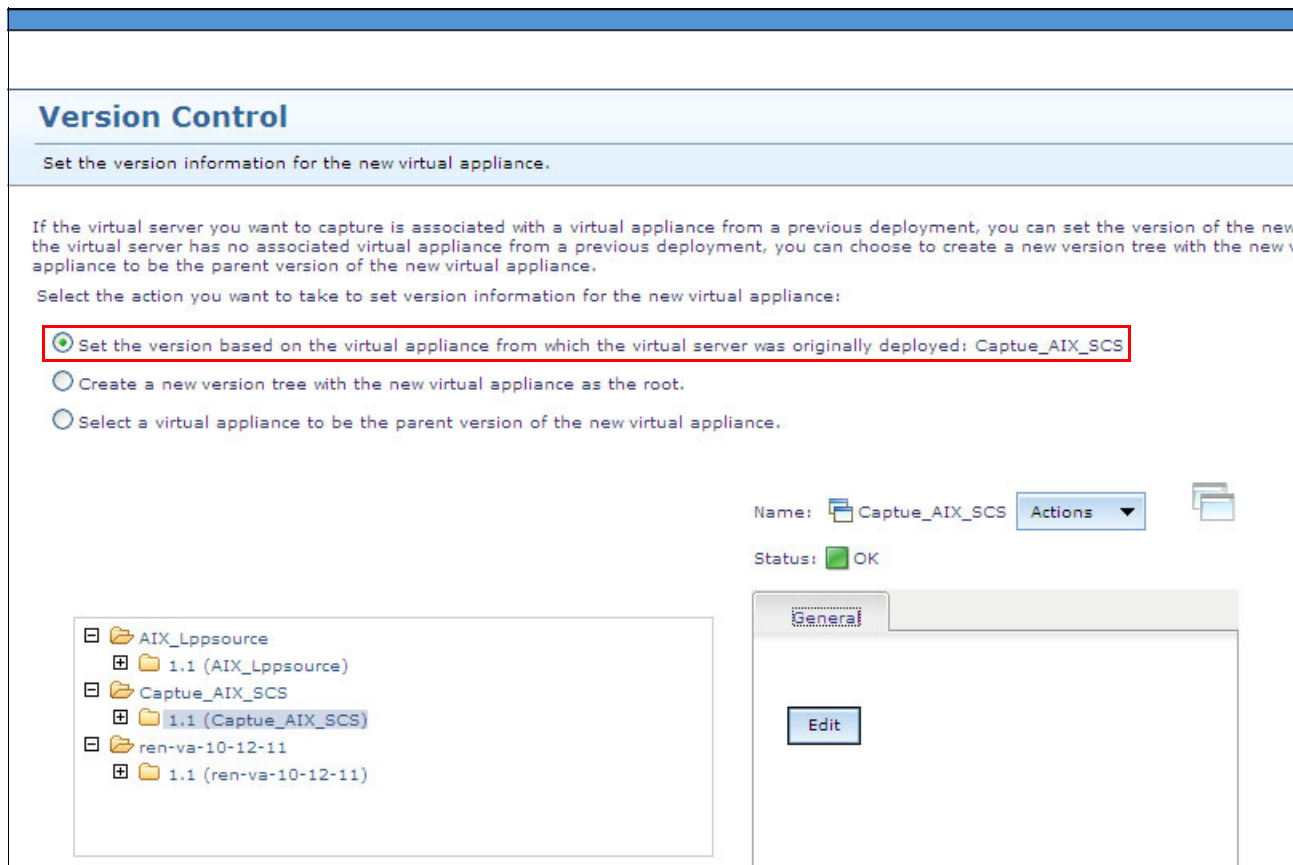

Figure 10-71 Capture: Version Control
7. Figure 10-71 shows the Version Control window. Normally, mkysyb-based capture is based on a source that is already running an AIX image. Therefore, the wizard selects **Set the version based on the virtual appliance from which the virtual server was originally deployed: Capture_AIX_SCS**, by default.